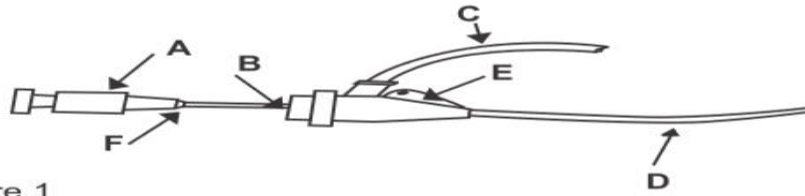

Figure 1
3. Insert the vessel dilator through the Introducer Sheath's haemostasis valves, snapping it into place at the hub (figure 1). Flush with heparinised saline or suitable isotonic solution.